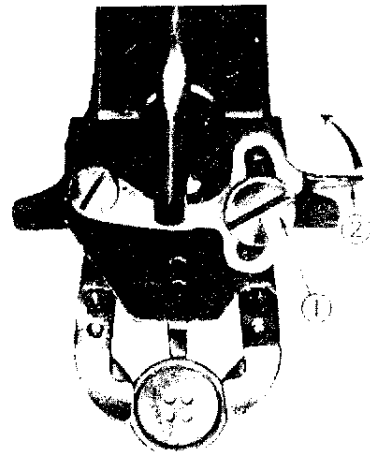

Fig. 22
21. REGLAGE DU LEVIER DE SERRAGE - FIG. 22
AVEC LA MACHINE EMBRAYÉE, DESSERER LA VIS (1) ET SELON QUE LA MACHOIRE SERA OUVERTE OU FERMÉE PAR L'ACTION DU LEVIER (2), DISPOSER CORRECTEMENT LE BOUTON COMME INDIQUE FIG. 22. APRES AVOIR CONSTATE QUE LE BOUTON EST MIS ET ÔTÉ FACILEMENT, RESSERER LA VIS (1).